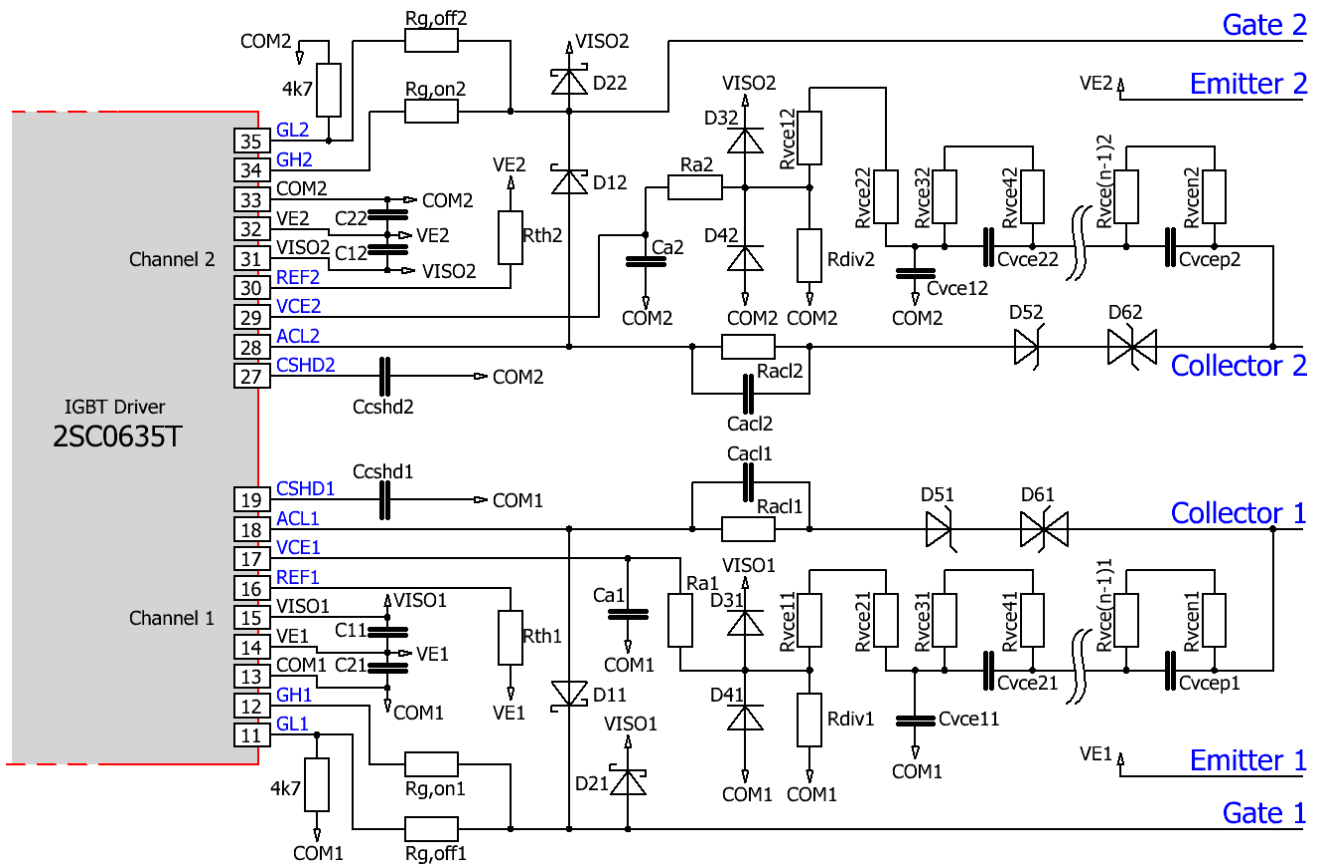

Fig. 7 Recommended user interface of 2SC0635T (secondary sides)
It is recommended to insert an external capacitance of 9.4µF between the VISOx and VEx terminals ( $C_{1x}$  in Fig. 7) to drive IGBT modules with a gate charge of up to 4.7µC.
- 4µF per 1µC between VISOx and VEx ( $C_{1x}$  in Fig. 7) as well as
- 2µF per 1µC between VEx and COMx ( $C_{2x}$  in Fig. 7)
The collector sense must be connected to the IGBT collector with the circuit shown in Fig. 7 in order to detect an IGBT overcurrent or short circuit.